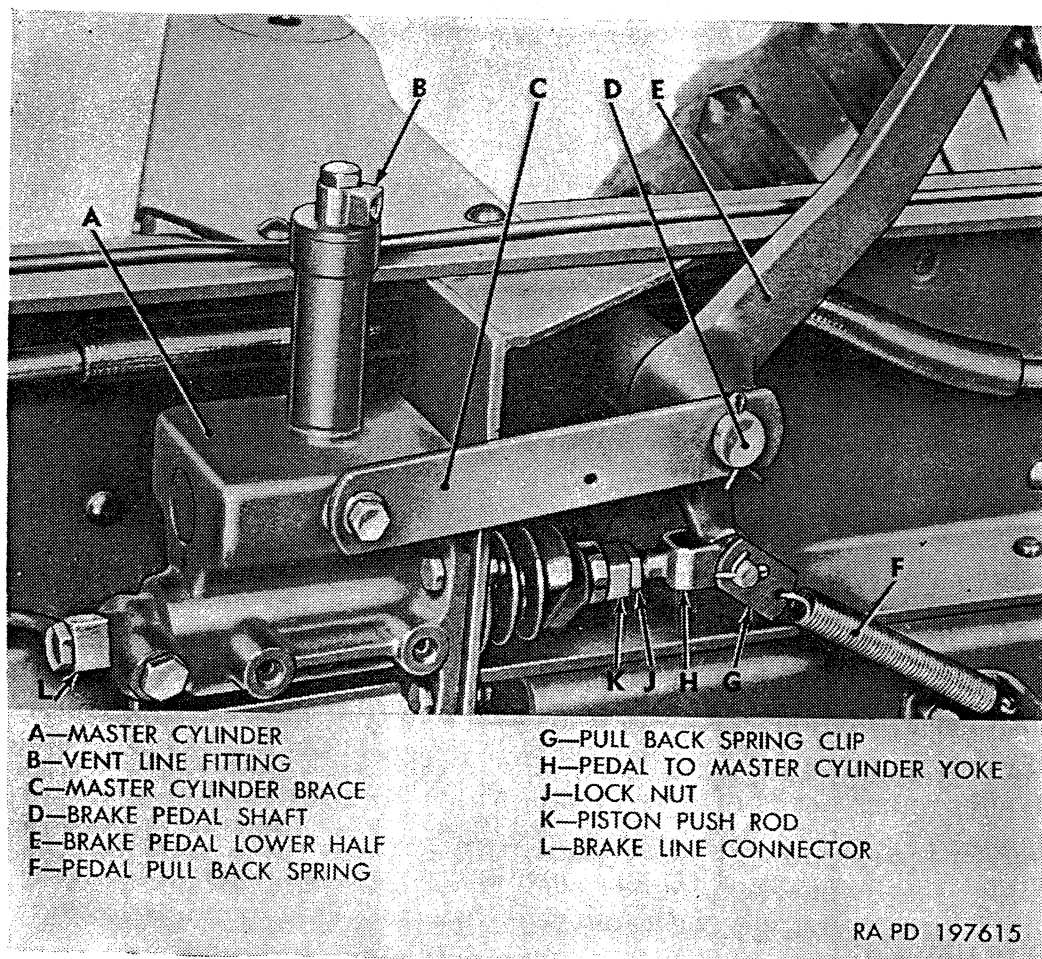

Figure 249. Brake pedal and master cylinder installed.
(fig. 249)
*Note.* The key letters noted in parentheses are in figure 249.